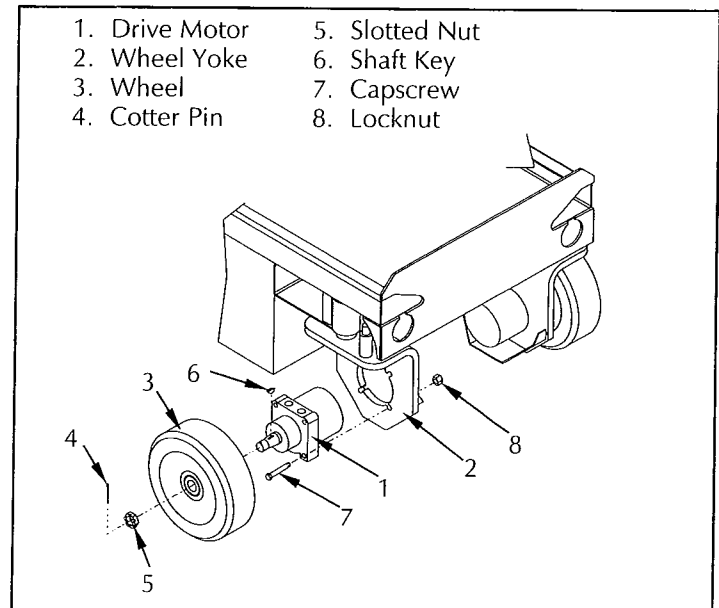

Figure 4-15: Drive Motor Installation
4.9 Hydraulic Drive Motors and Hubs (Figure 4-15)